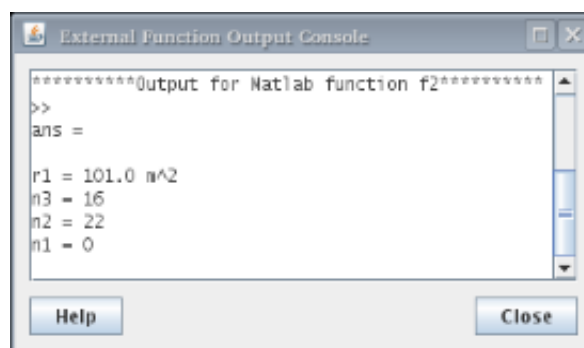

Figure 2.56. External Function Output Console
Some functions include a *Show Console* property. When activated, the external function console will be displayed. All output from the external applications (or Python execution) will be displayed in the console as shown in Figure 2.56, “External Function Output Console”.
- **Show Console** - this property, when selected, gathers all output from the external applications (or Python execution) and displays it in a pop-up dialog when the function has completed execution, as shown in Figure 2.56, “External Function Output Console”.
- **Show Console** - This property, when set to True, gathers all output from the external applications (or Python execution) and displays it in a pop-up dialog when the function has completed execution, as shown in Figure 2.56, “External Function Output Console”.